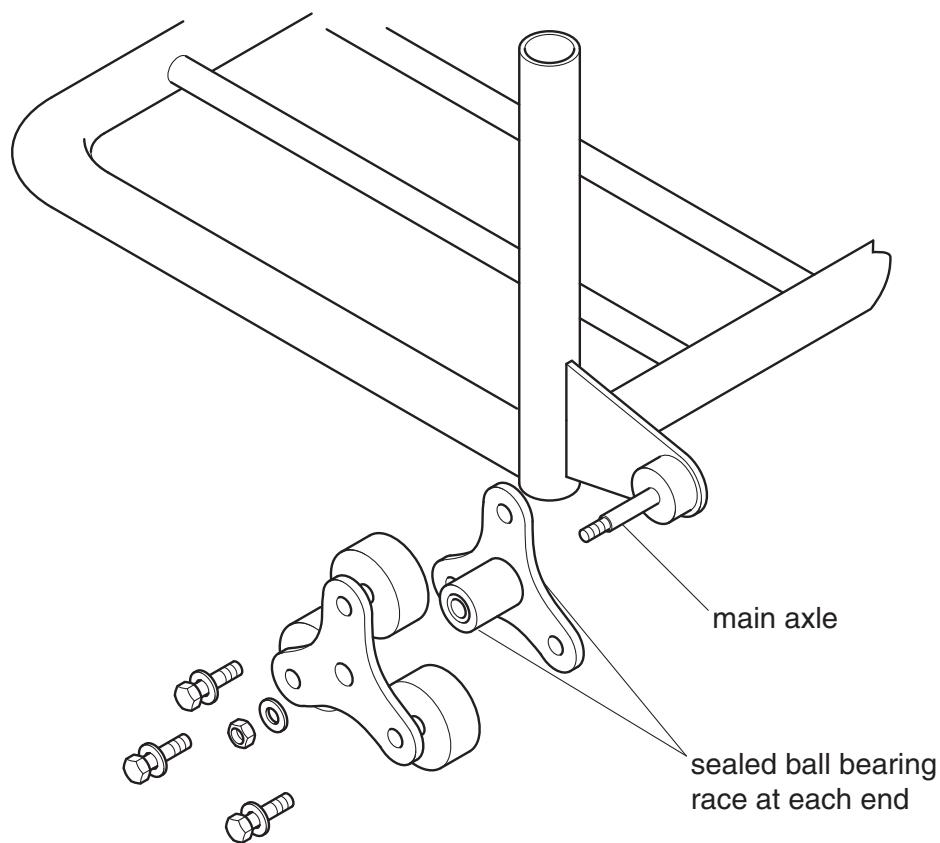

Fig. 15
- (b) Fig. 15 shows details of one of the side plates.